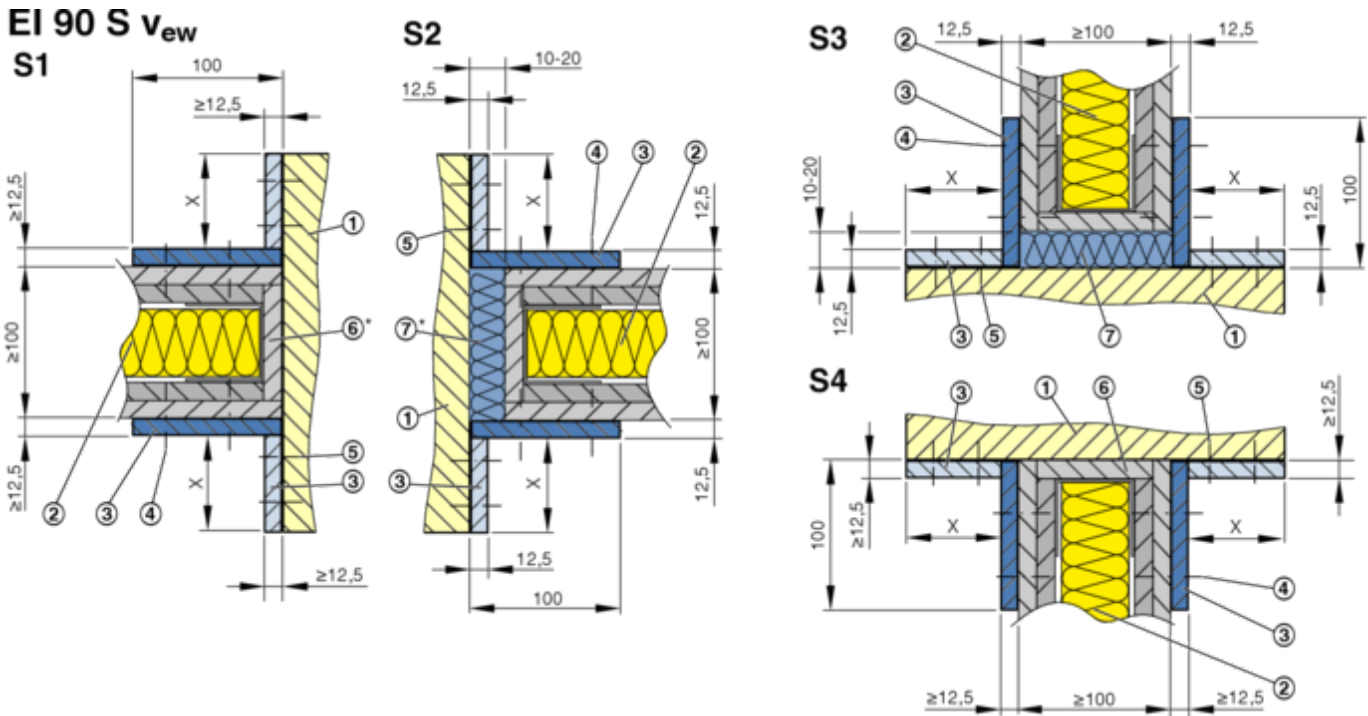
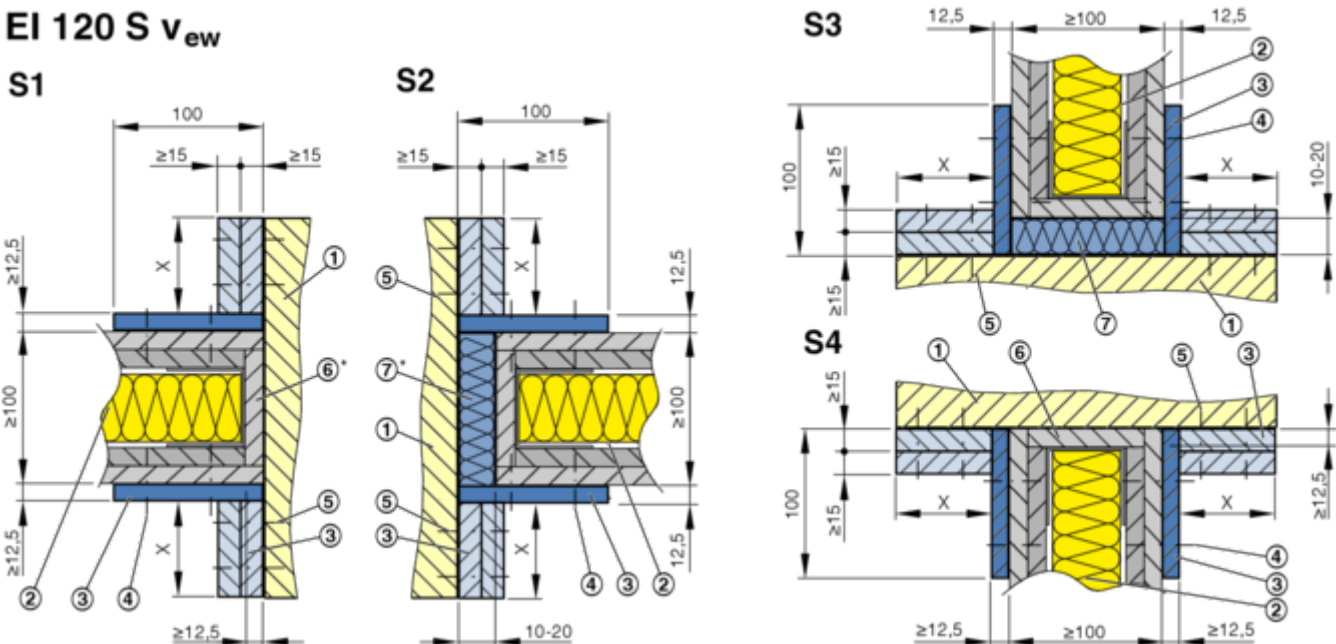

Fig. 43: Details EK-JZ dry mortarless installation in solid wall, solid shaft wall EI 90 S
Fig. 44: Details EK-JZ Dry mortarless installation in solid wall, solid shaft wall EI 120 S, legend ↪ Fig. 43
Angle section ↪ Fig. 43 , Fig. 44
- EI 90 S_{veW} : angle sections on both sides of the wall, 1 strip ≥ 12.5 mm, ↪ Fig. 43
- EI 120 S_{veW} : angle sections on both sides of the wall, 2 strip ≥ 15 mm, ↪ Fig. 44
- Cavities are stuffed with mineral wool or rock wool (7).